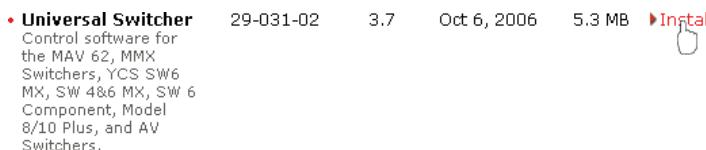

Figure 3-3 — Software installation
3. Scroll to the desired program and click Install (figure 3-3).